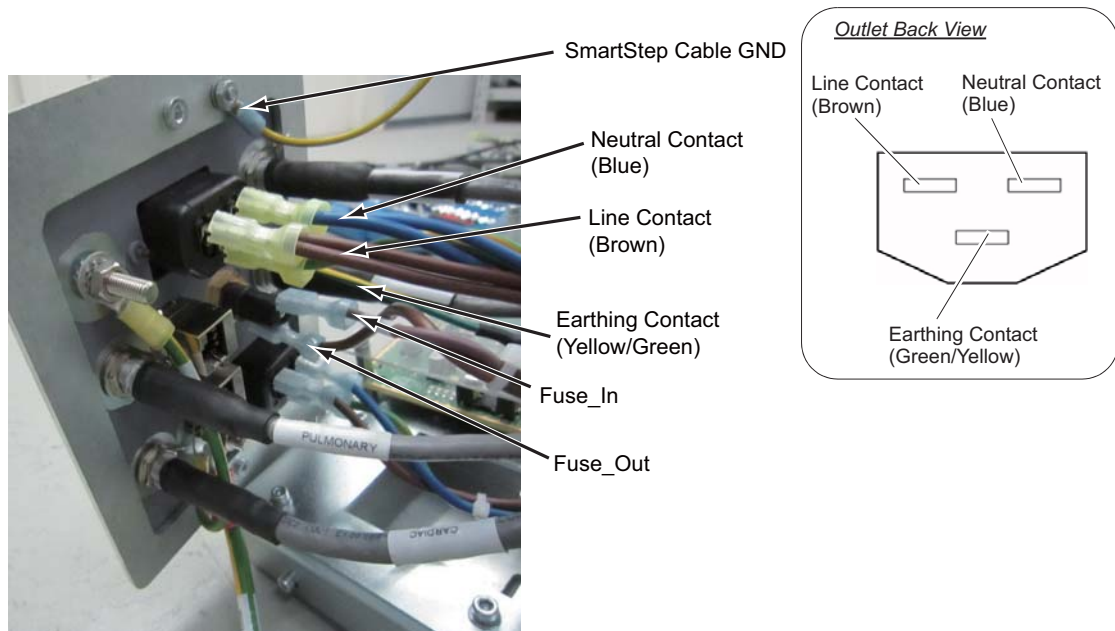

Figure 2-14 Left Accessory Panel Connection
- a.) Connect the 120V power cable (5306481-3) A1 to Left Accessory Panel and A2 to the Right Accessory Panel. (See Figure 2-14 and Figure 2-15)